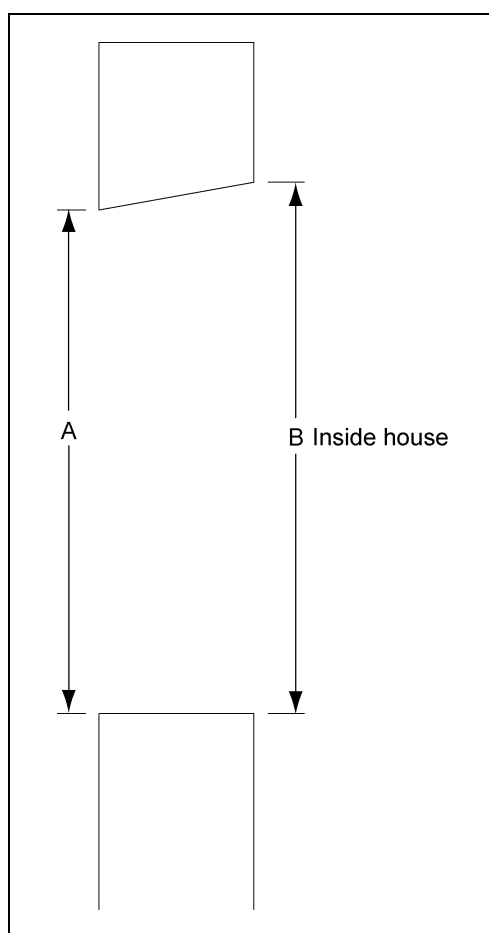

Figure 3A
1. Construct the opening frame to the correct size (rough openings are listed in Chart below) as illustrated in the Figure 3A. The framing must be able to support the weight of the fan assembly. Ensure the load-bearing portion of the bottom sill is rigid and properly supported.
2. Position the fan in front of the opening from the inside. Using a minimum of two (2) people, lift fan housing into the opening.